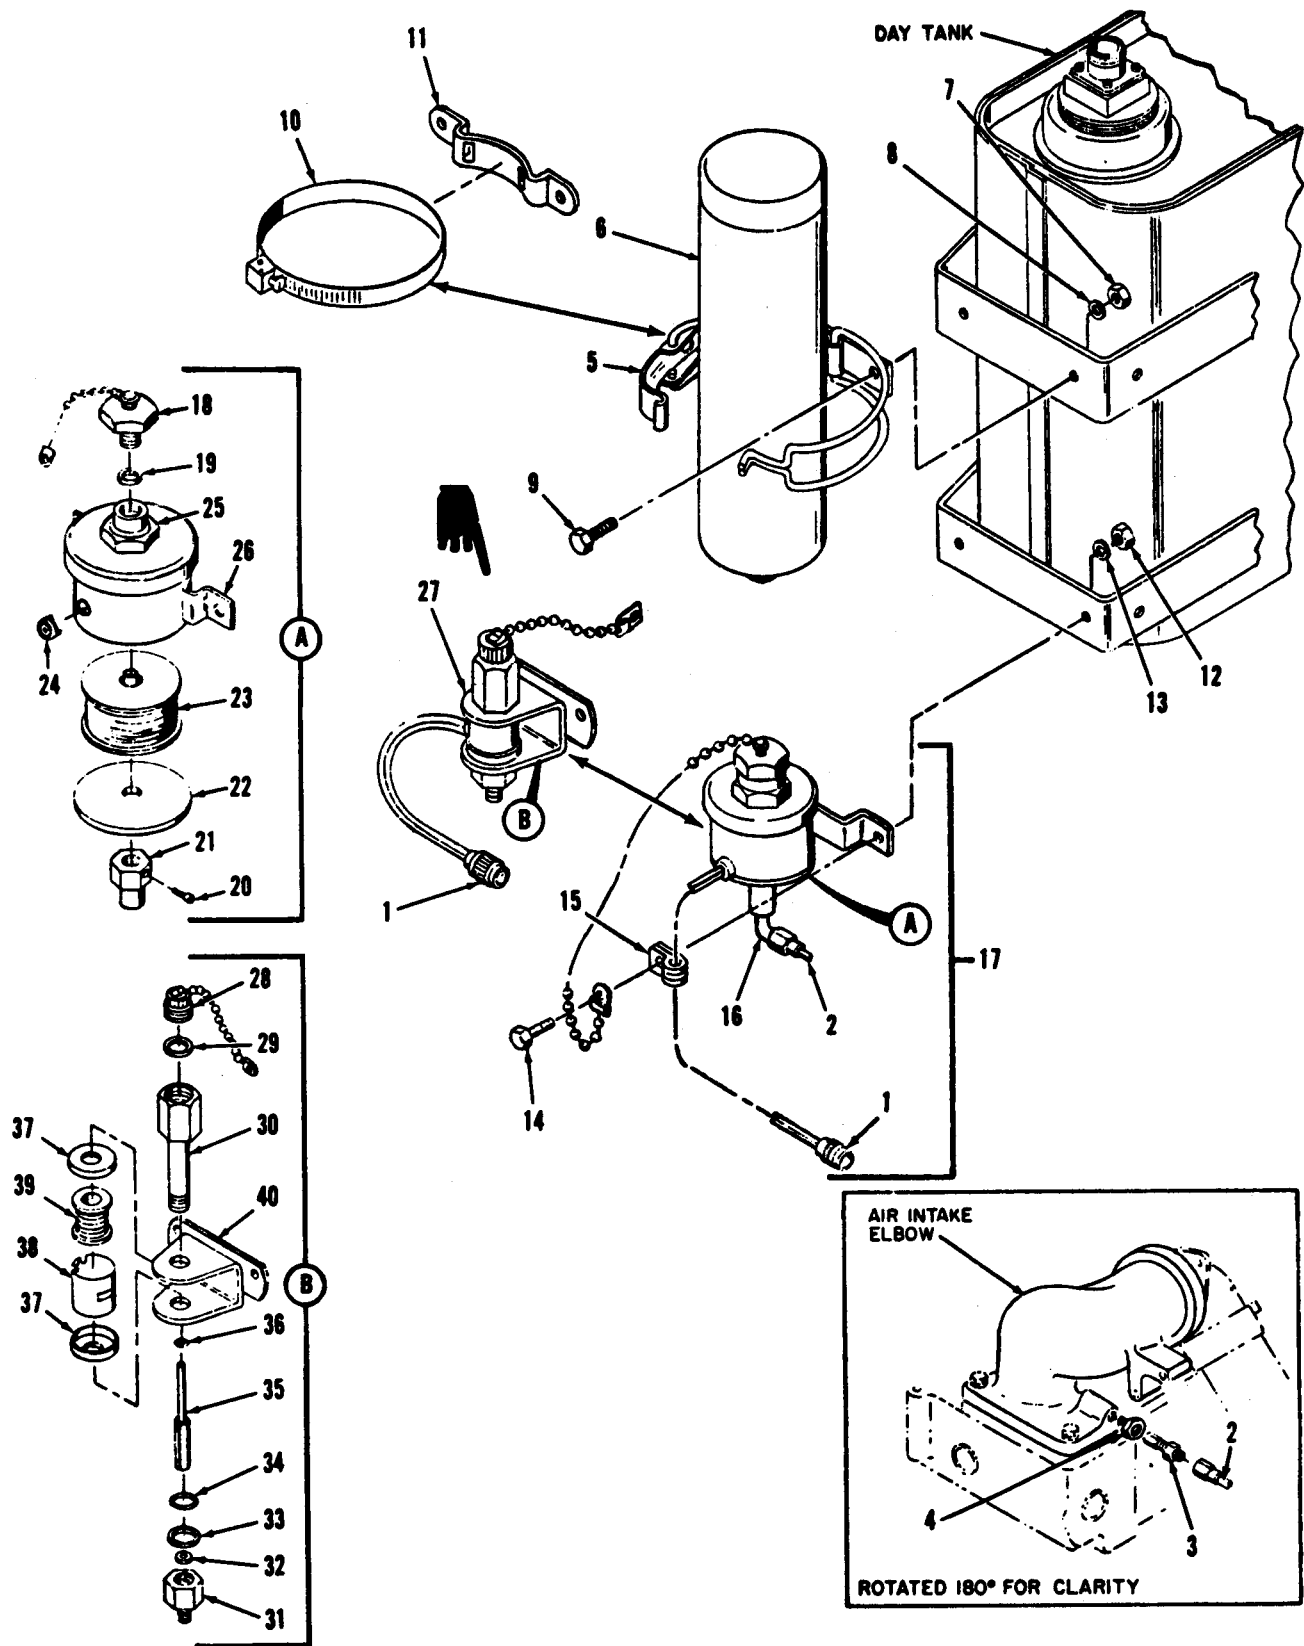

Figure 4-1. Ether starting aid, exploded view
Either of two ether solenoid valve assemblies and cylinder clamps may be installed on the generator set. The solenoid valves are interchangeable but must utilize their respective cylinder clamps. Before disassembling the solenoid valve assembly, locate the respective valve in figure 4-1 and utilize the disassembly procedure for that valve assembly only.
a. REMOVAL. Remove components of ether starting aid in sequence illustrated in figure 4-1, observing the following:
(17, Figure 4-1)
1. Remove connector (1, figure 4-1) from wiring. Loosen screw (20) and remove nut (21).
2. Remove cover (22). Push wires through grommet (24) as coil (23) is removed. Remove valve (25) from bracket (26).
Legend to figure 4-1
1. Install grommet (24) in bracket (26) and insert coil (23) wires through grommet.
2. Insert coil (23) in valve while pulling wires through grommet. Install valve (25) in bracket.
3. Install cover (22) so that tab is in alignment with grommet opening. Install nut (21) and tighten screw (20).
f. INSTALLATION. Install components of ether starting aid in reverse sequence illustrated in figure 4-1, observing the following:
1. Remove clamp screw and nut holding radio suppression diode assembly. Install clamp (5) and secure clamp and diode assembly to day tank.
2. For initial installation of cylinder, remove protective cap from primer prior to installing cylinder (6).
3. Lubricate cylinder (6) threads with one drop of OE 30 oil prior to installation. Tighten cylinder hand tight.
(28, figure 4-1).
1. Remove connector (1, figure 4-1) from wiring. Loosen nut (31) and carefully remove from valve assembly.
2. Remove armature (35), preformed packings (34) and (36), seal (33) and bumper washer (32). Withdraw body assembly (30) and preformed packing (29) from bracket (40).
3. Remove coil housing (39), coil covers (38) and coil (40) from bracket (41).
1. Place coil (39) within coil housing (38) and place coil covers (37) on top and bottom. Place the above components into the bracket (40).
2. Place preformed packing (29) into top of body assembly (30) and slide body assembly (30) through bracket (40). Insert armature (35) preformed packings (34 and 36), seal (33) and bumper washer (32) into body assembly (30). Install and tighten nut (31).
k. INSTALLATION. Install components of ether starting aid in reverse sequence illustrated in figure 4-1, observing the following: